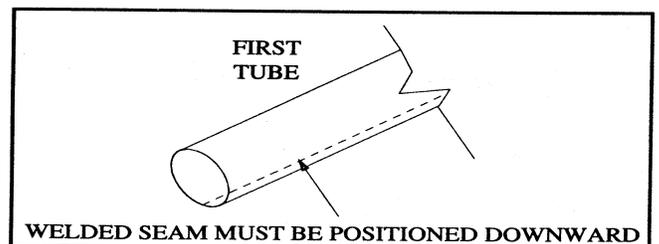
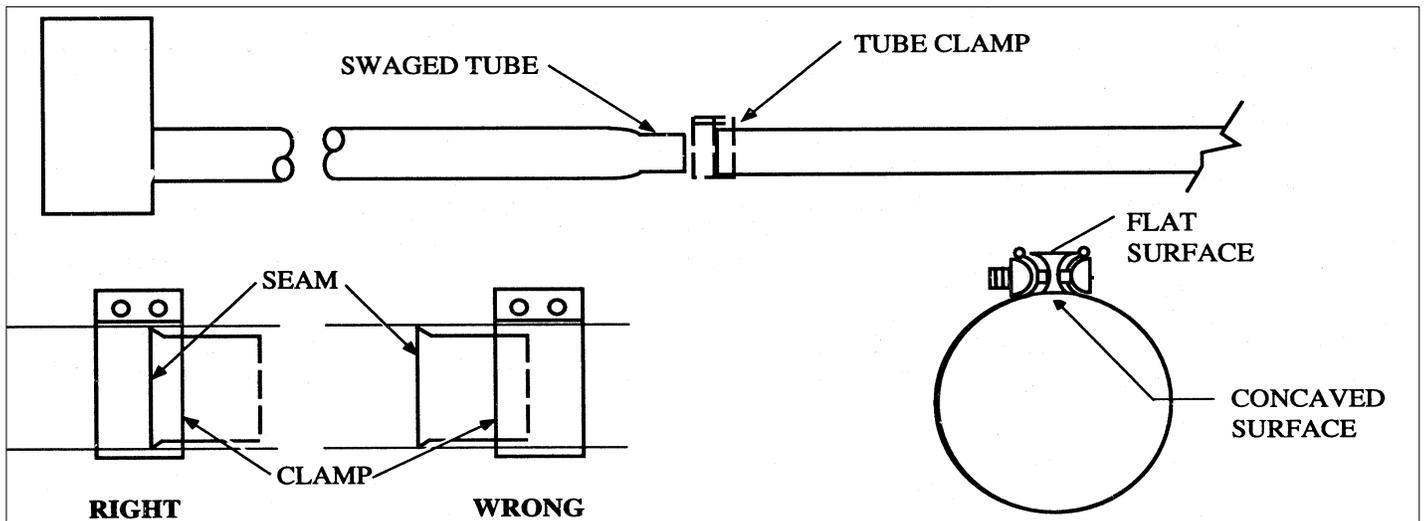

Figure 1-8
Figure 1-9
- Mount hangers on approximately 10 ft. centers. Slide tubes through hangers with weld seam downward (see Figure 1-8) and fasten with tube clamps (see Figure 1-9). Center clamps on seams.
NOTE: The tube clamps provided with the heater are pre-assembled at the factory. If a clamp is dismantled, it is important that upon reassembly the spacer is properly inserted (see Figure 1-9). The spacer’s concave surface **must** face the radiant tube. Incorrect spacer placement will result in shearing of the bolt when torqued to the recommended specification (50-70 lb.-ft).